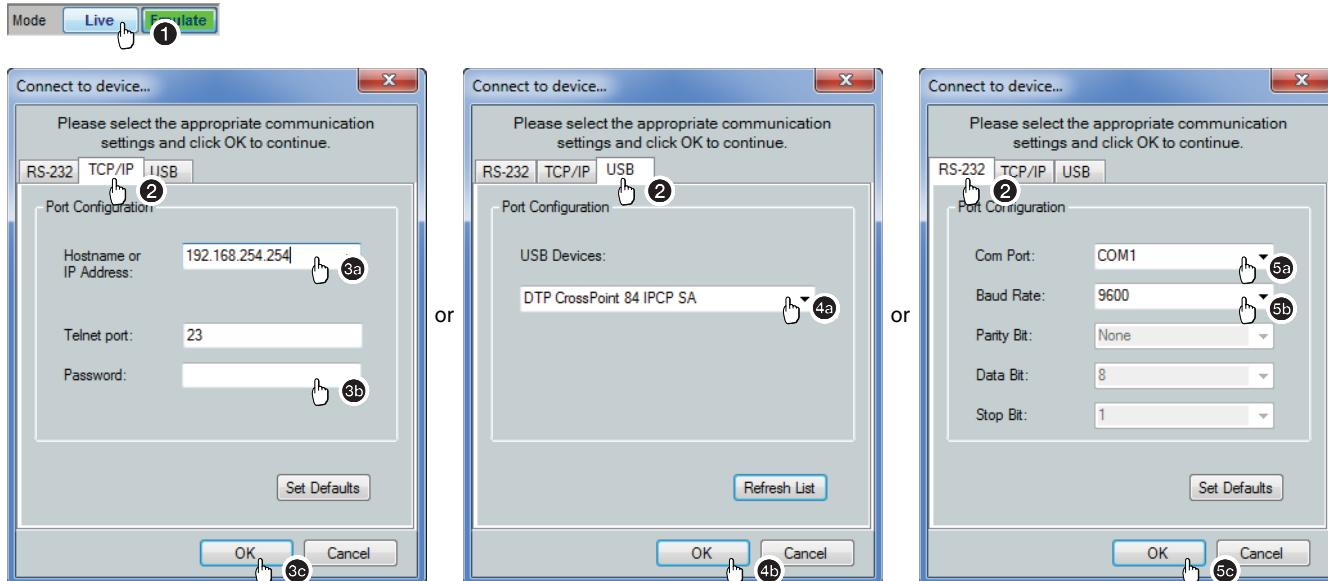

Figure 59. Selecting Live Mode
1. Click the **Mode Live** button (see figure 59). The Connect to device window appears, with either the TCP/IP tab, the USB tab, or RS-232 tab active.